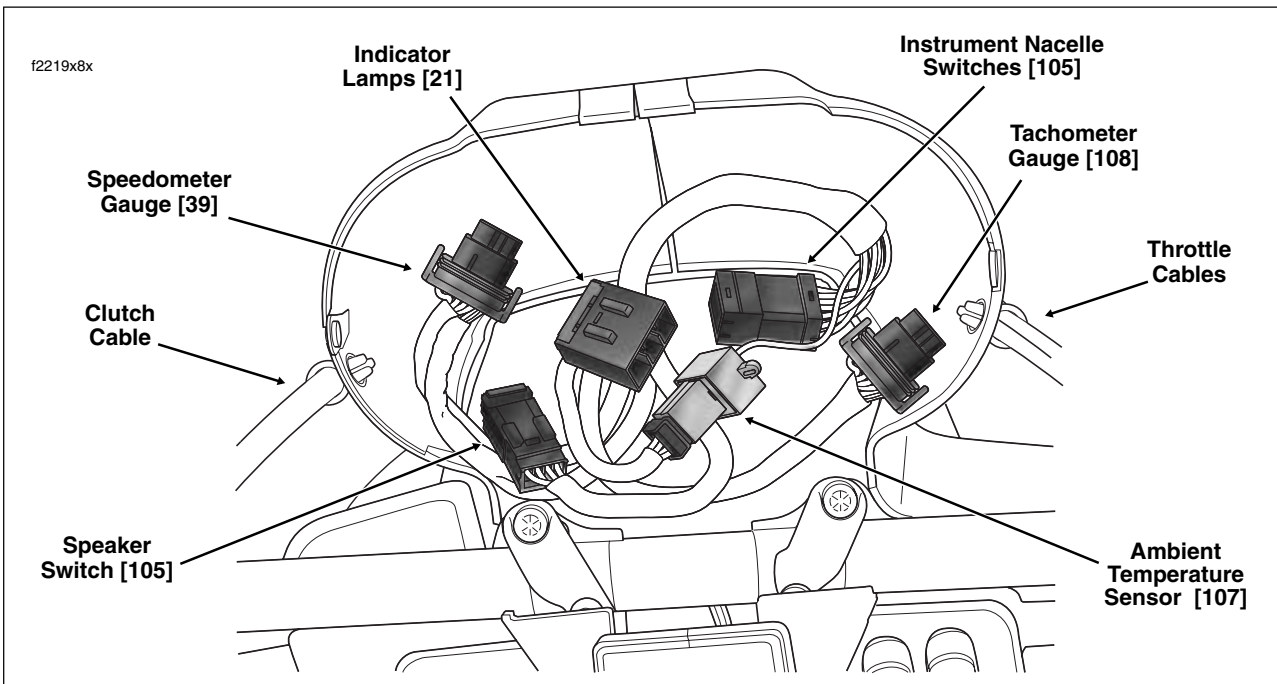

Figure 2-165. Instrument Nacelle (Bezel Removed)
4. See Figure 2-165. Disconnect instruments and indicator lamps from interconnect harness as follows:
1. See Figure 2-165. Looking into the instrument nacelle, connect instruments and indicator lamps to interconnect harness as follows:
3. See Figure 2-165. Disconnect left side switch from instrument nacelle switch harness as follows:
9. See Figure 2-165. Disconnect instrument nacelle switches and ambient temperature sensor from interconnect harness as follows:
10. See Figure 2-165. Draw branches of interconnect harness (terminating in odometer reset switch and speedometer, tachometer, indicator lamps, instrument nacelle switch and ambient temperature sensor connectors) from instrument nacelle through tunnel of fairing bracket to front of inner fairing.